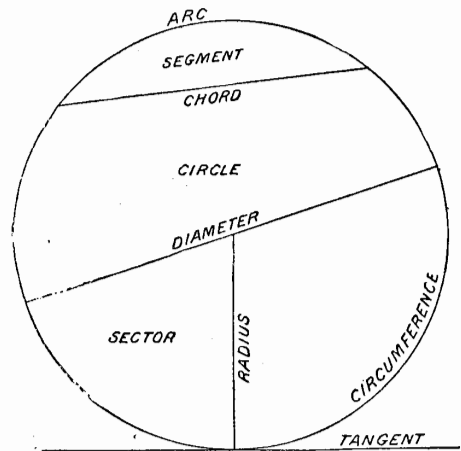

Fig. 56.— Parts of a Circle
50. A *Circle* is a plane figure bounded by a curved line every point of which is equidistant from a point within called the *center*. The term is also applied to the line itself which is also called the *Circumference*. Fig. 56.
51. The *Diameter* of a circle is any straight line drawn through the center to opposite points on the circumference. Fig. 56.
52. The *Radius* (plural radii) of a circle is a straight line drawn from the center of a circle to any point on the circumference, in other words it is half the diameter. Fig. 56.
54. An *Arc* of a circle is any portion of the circumference. Fig. 56.
55. A *Chord* is a straight line joining the two ends of an arc. Fig. 56.
56. A *Segment* is that part of a circle (the space) included between any arc and its chord. Fig. 56.
57. A *Sector* is that part of a circle included between any two radii and the arc between. Fig. 56.
59. A *Tangent* to a circle or any curve, is any straight line drawn as to touch the curve at one point only. Every tangent to a circle is perpendicular to a radius drawn to the point of tangency. Fig. 56.